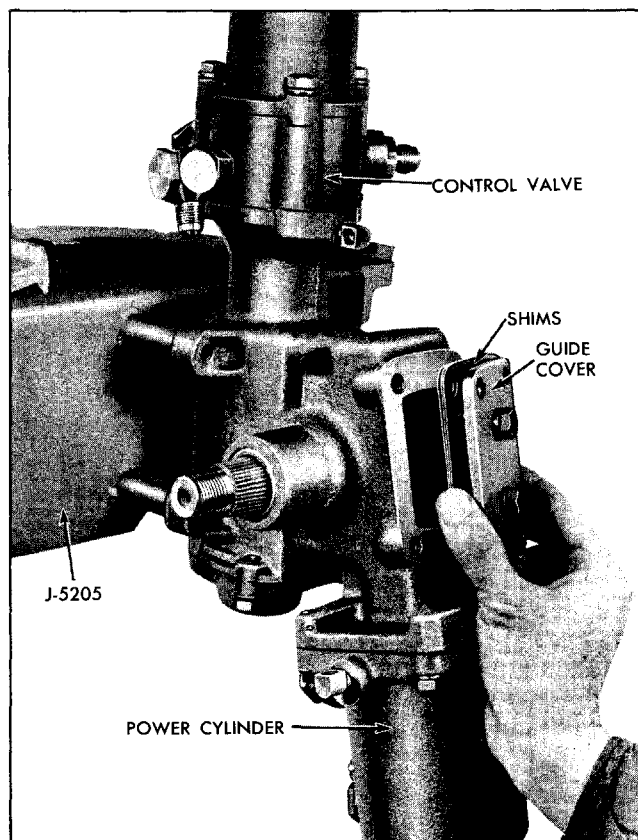

Fig. 9-30 Steering Gear Mounted on Tool J-5205
20. Mount holding fixture (J-5205) in vise or differential carrier holding stand (J-945) or (J-3289) and attach gear to fixture with three long bolts which are part of J-5205 (Fig. 9-30).
1. Remove four outer power rack cover to gear housing screws and remove power rack cover with guide spacing shims (Fig. 9-30). **NOTE:** Do not remove two bolts in center of cover.